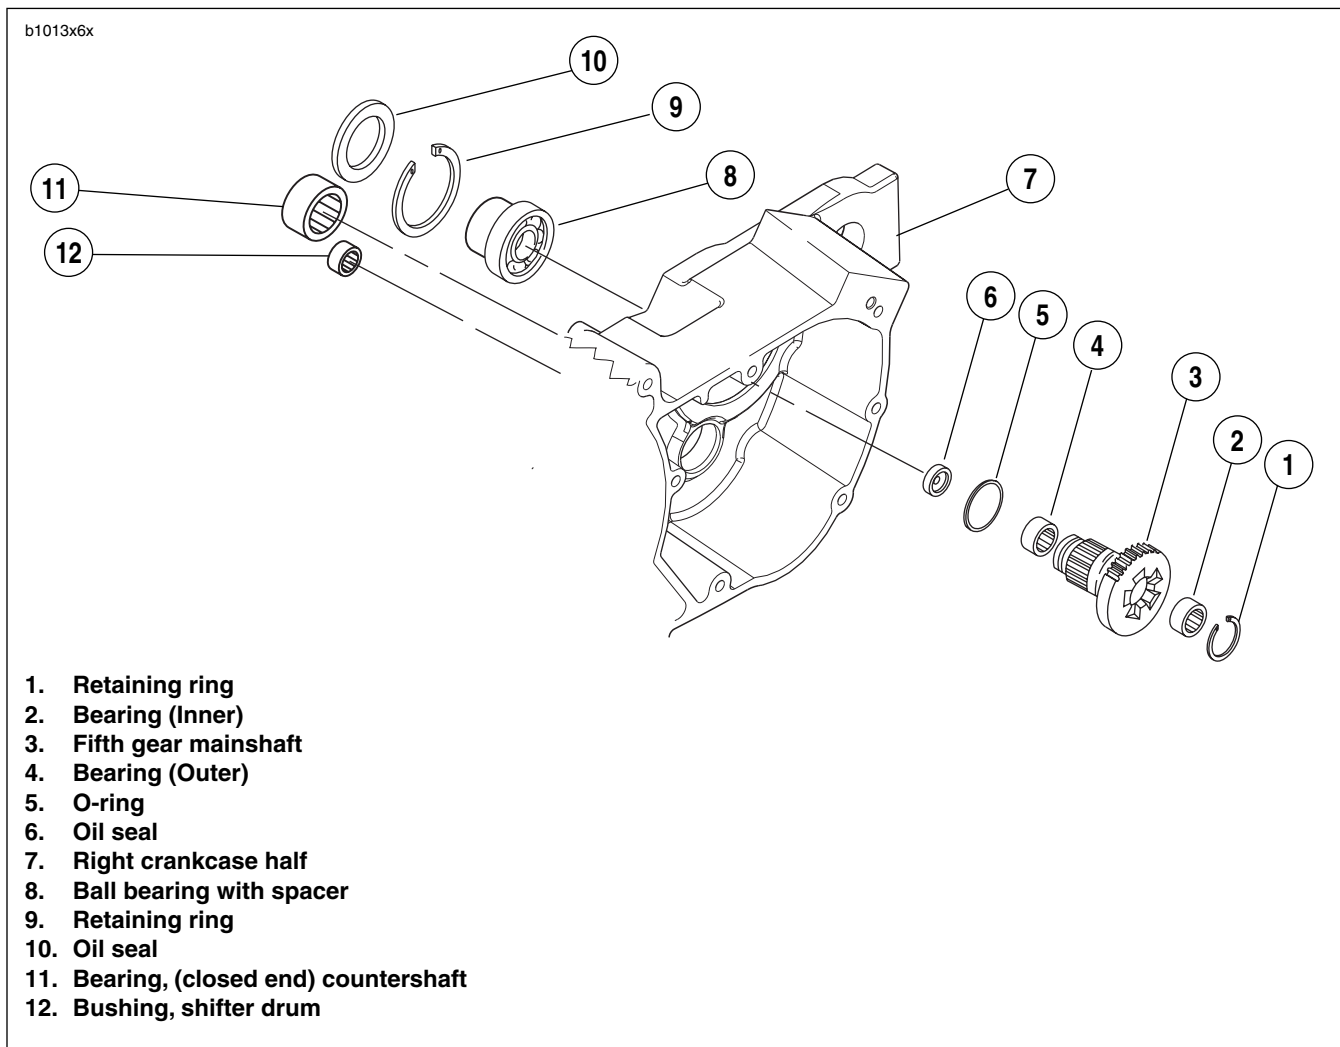

Figure 6-65. Transmission Assembly-Right Crankcase Half
1. See Figure 6-65. At outside of case remove and discard oil seal (10). Remove and discard main drive gear bearing retaining ring (9).
1. See Figure 6-65. At outside of case install **new** beveled retaining ring (9) in groove inside bearing bore with beveled side facing outside of case.